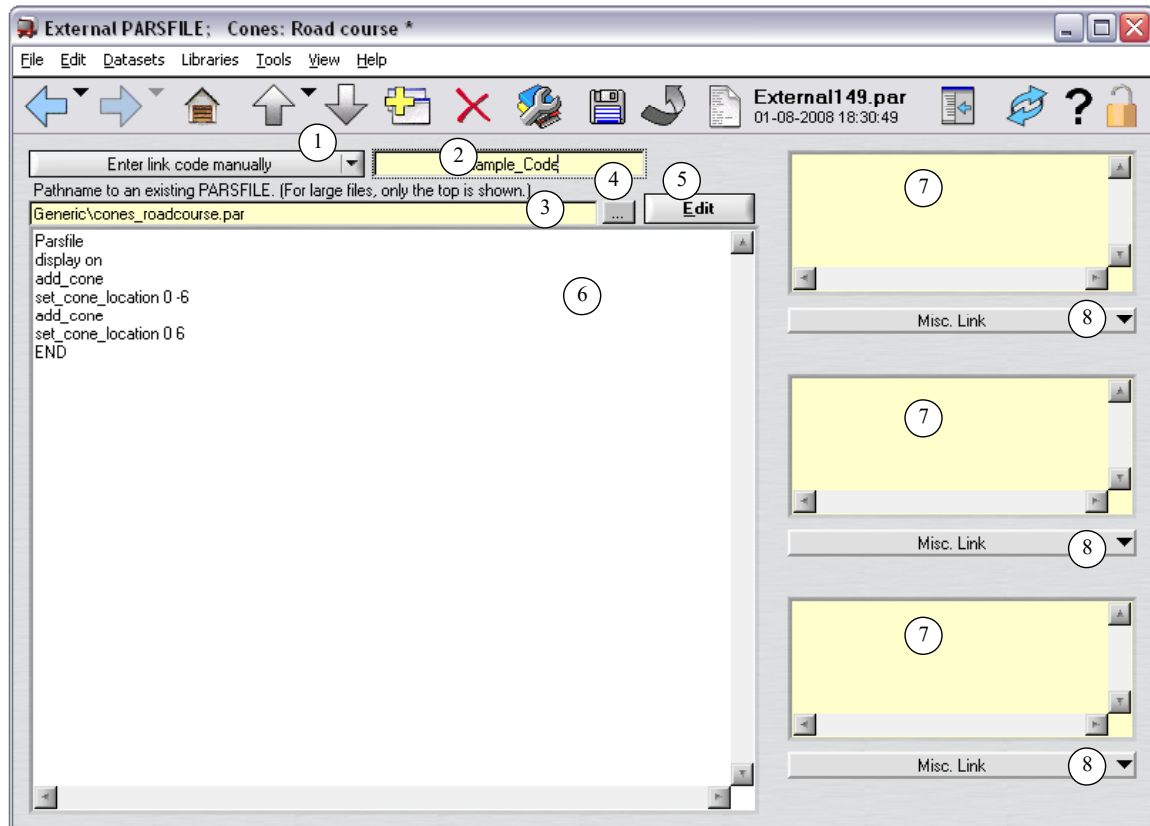

Figure 1. Parsfile screen.
Figure 1 shows the parsfile screen, which is used to link to text files that were created with software other than the VehicleSim (VS) browser, such as custom files that do not have associated screens.